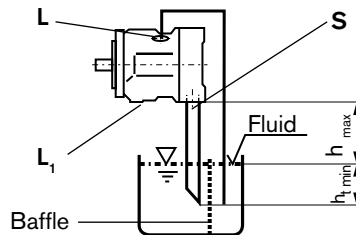

Fig. 4
Pipe port "L" and "S" acc. to fig. 4, port "L₁" closed. Conditions correspond with item 1.2.1.